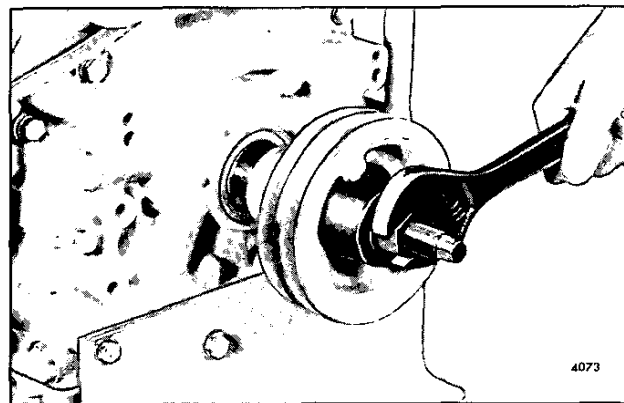

Fig. 3 - Installing Crankshaft Pulley Using Installer J 7773
5. Install a rigid type pulley on an In-line or 6V engine with installer J 7773 (Fig. 3). Then, remove the installer.